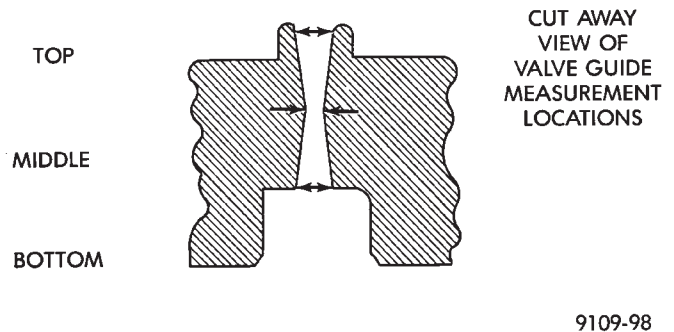

Fig. 103 Checking Wear on Valve Guide—Typical
- (1) Remove carbon and varnish deposits from inside of valve guides with a reliable guide cleaner.
- (2) Using a small hole gauge and a micrometer, measure valve guides in 3 places top, middle and bottom (Fig. 103). Refer to Valve Guide Specification Chart for specifications. Replace guides if they are not within specification.